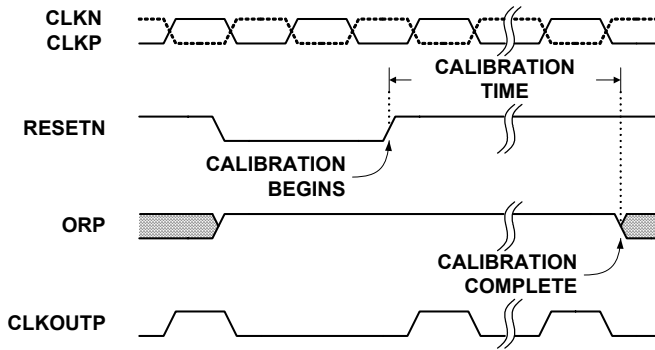

FIGURE 24. CALIBRATION TIMING
The calibration sequence is initiated on the rising edge of RESETN, as shown in Figure 24. The over-range output (OR) is set high once RESETN is pulled low, and remains in that state until calibration is complete. The OR output returns to normal operation at that time, so it is important that the analog input be within the converter's full-scale range to observe the transition. If the input is in an over-range condition, the OR pin will stay high, and it will not be possible to detect the end of the calibration cycle.